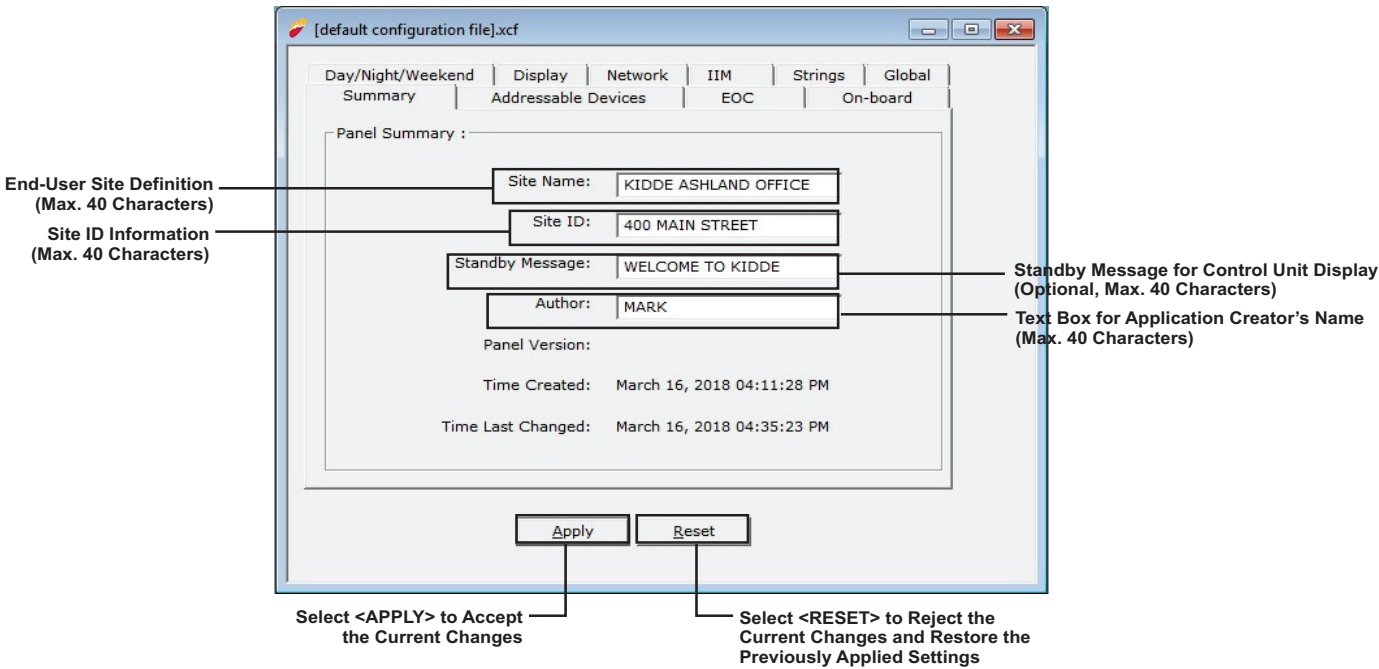

Figure 2-2. Summary Screen
- To create a new file: Select **File>New** or select the New File Icon on the toolbar (📄); Figure 2-2 displays.
- To open an existing file: Select **File>Open** or select the Open File Icon on the toolbar (🔍). Select a file and click on **<Open>**; Figure 2-2 displays.